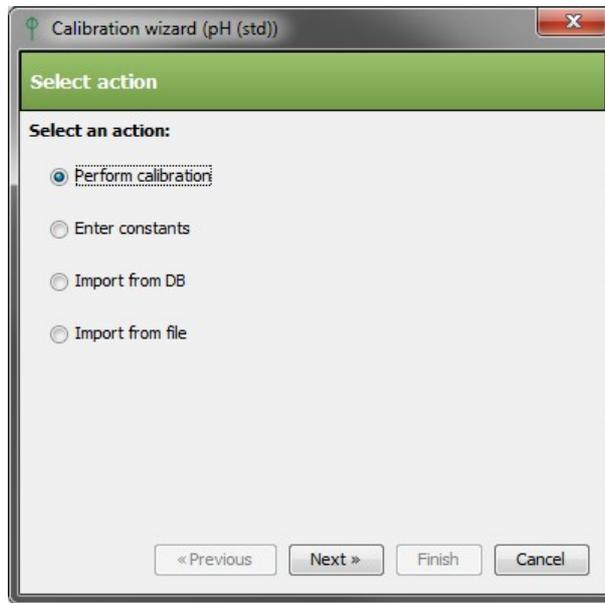

Fig. 20: Calibration action selection step
- The “Calibrate..” button will open the *calibration wizard* as shown on Fig. 20. The first step in the wizard selects desired calibration action.